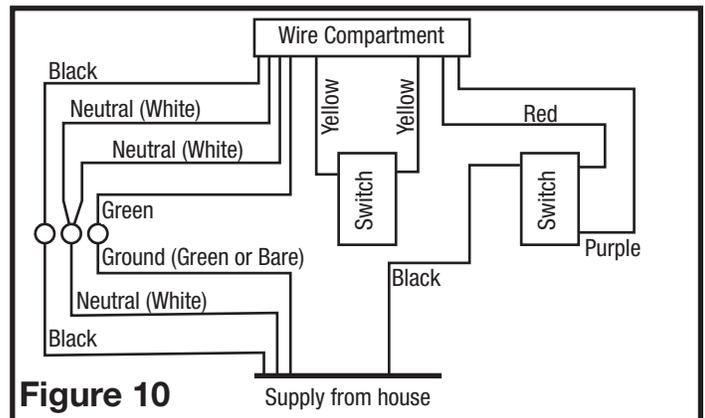

**Figure 9**
3. Secure the electrical wires to the housing with an approved electrical connector. For two speed fans wired for continuous ventilation, connect the White wires of the fan to the White (Neutral) wire from the power source. Connect the ground wire from the house to the Green wire from the fan housing. Connect the Black wire of the fan to the Black wire (Hot) from the power source. The fan will operate on low speed continuously and boost to high speed when motion is detected. Using a properly grounded standard duplex toggle switch (such as Leviton 5224-2W, not included) connect the black wire from the supply to one side of the top and bottom switch. Connect the red wire (light) from the fan housing to the other side of the top switch and connect the purple wire (night light) from the fan housing to the other side of the bottom switch. A manual override switch (not included) can be used to provide a manual fan Off function (Figure 9).